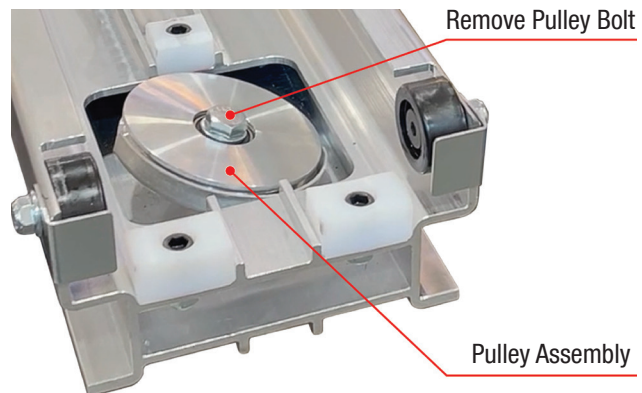
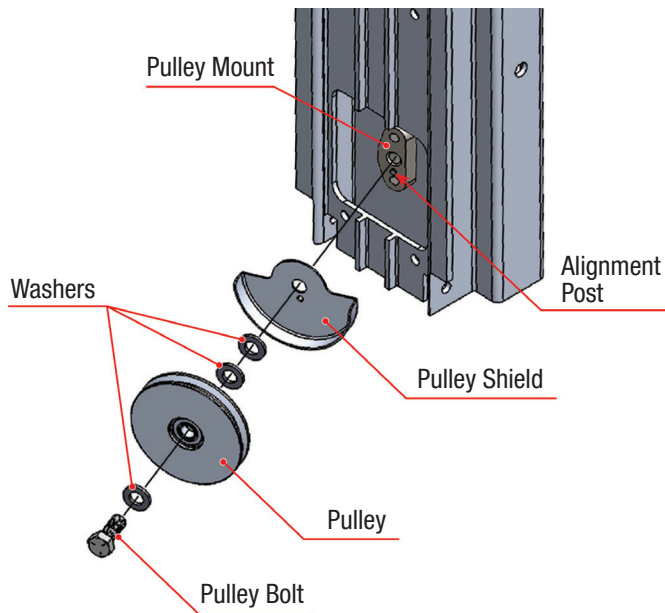

Figure 4-15: Removing Pulley Assemblies
Figure 4-16: Pulley Assembly Parts and Installation Order
16. Using a 3/4" socket wrench, remove the upper and lower pulley assemblies of the re-installed mast section (see Figure 4-15). IMPORTANT: Be sure and note the placement of the three washers. Re-install washers in the same order (see Figure 4-16).
18. Apply a dab of blue Loctite to the pulley bolt threads and loosely attach the lower pulley assembly back in place. NOTE: There is a small post on the pulley mount. Align that post with the mounting hole in the pulley shield (see Figure 4-16).
20. Apply a dab of blue Loctite to the pulley bolt threads and loosely attach the upper pulley assembly back in place. NOTE: There is a small post on the pulley mount. Align that post with the mounting hole in the pulley shield (see Figure 4-16).
24. On the fork carriage, use a 3/4" socket wrench to remove the carriage pulley assembly. IMPORTANT: Be sure and note the placement of the three washers. Re-install washers in the same order (see Figure 4-16).
25. Apply a dab of blue Loctite to the pulley bolt threads and loosely attach the carriage pulley assembly back in place. NOTE: There is a small post on the pulley mount. Align that post with the mounting hole in the pulley shield (see Figure 4-16).